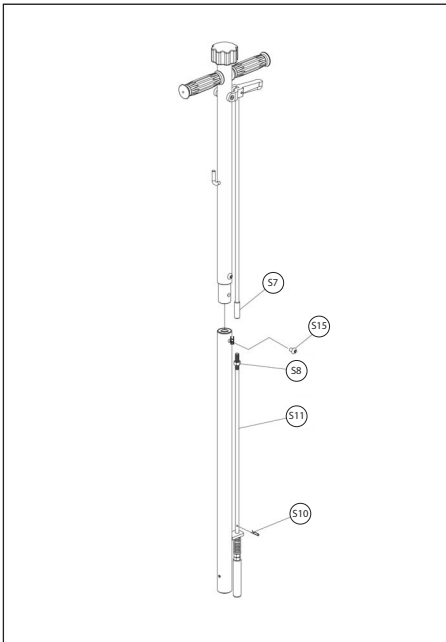

Figure 1
- a) Assemble handle (22) by sliding top handle half into bottom handle half and securing with screw (S15).
- d) Nuts (S8) can be adjusted to give you precision air control. (See figure 1 below)